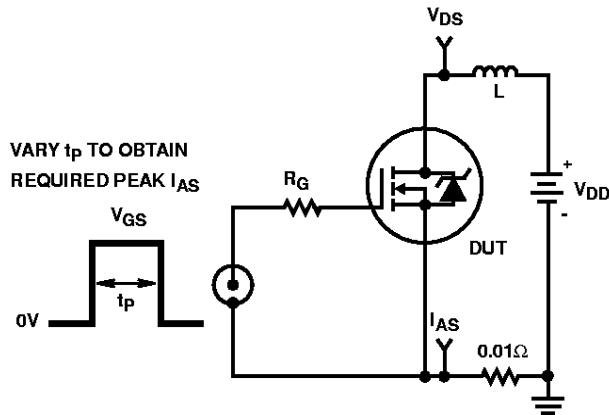

FIGURE 15. UNCLAMPED ENERGY TEST CIRCUIT
4. $V_{DD} = 50\text{V}$, starting $T_J = 25^\circ\text{C}$, $L = 4.5\text{mH}$, $R_G = 25\Omega$, peak $I_{AS} = 14\text{A}$ (Figures 15, 16).